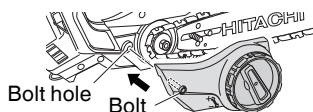

Fig. 7
- (1) Align the bolt with the bolt hole (Fig. 7)